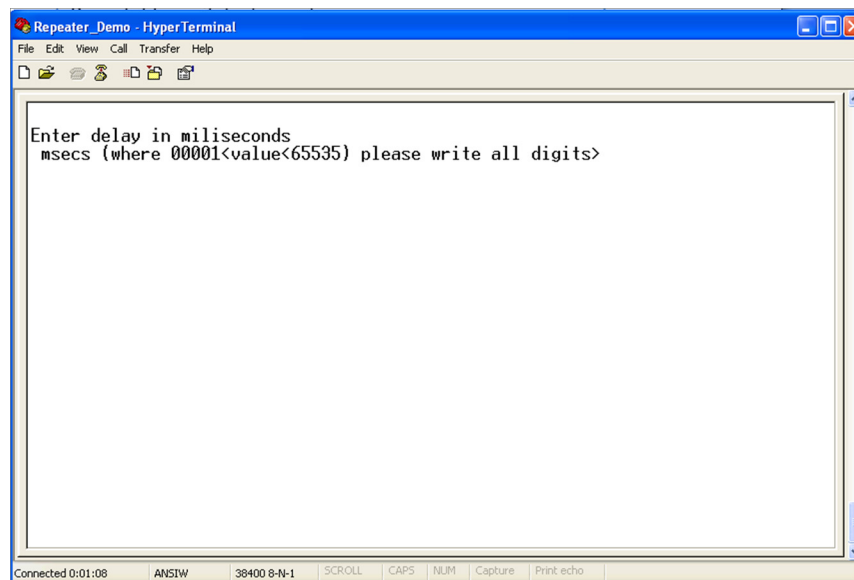

Figure 6-7. Change Delay Length
- Type “d” to change the “Delay Length” value as shown in Figure 6-7. The range is 00001 ms to 65535 ms and users must enter all five digits.